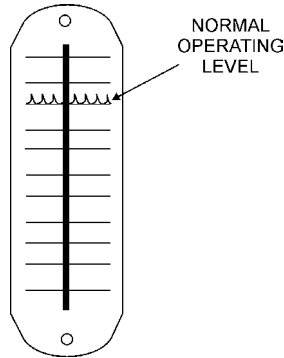

Figure 40. Hydraulic Oil Sight Glass
1. Check the hydraulic oil level in the hydraulic oil tank, by reading the hydraulic oil sight glass (Figure 40) mounted on the hydraulic oil tank.